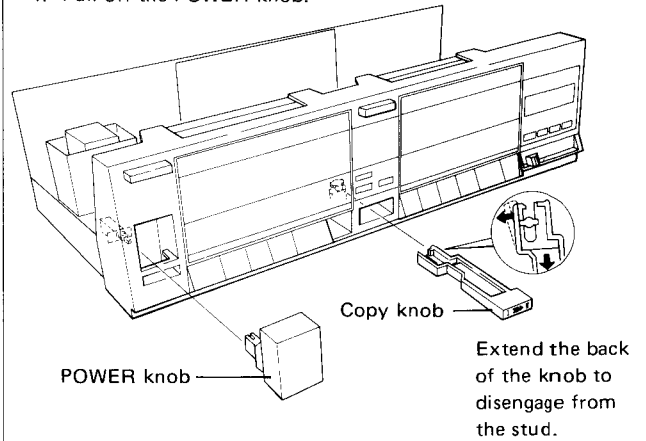

Fig. 3-3
3. Pull off the COPY and POWER knobs. (Refer to Fig. 3-3)